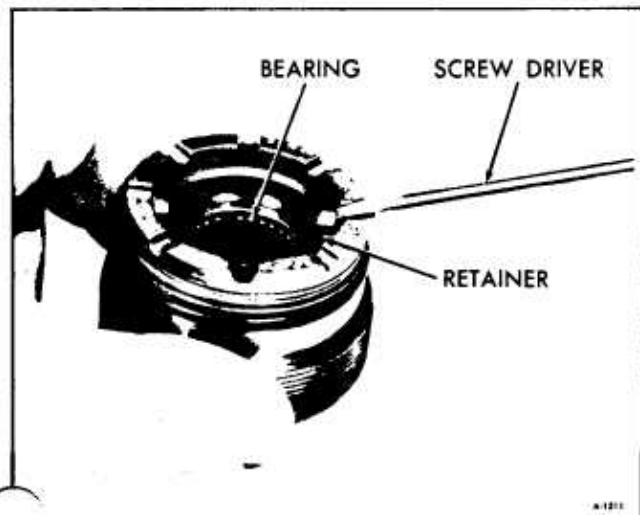

Figure 29—Removing Retainer
2. If the thrust bearing **ONLY** is to be removed, pry the thrust bearing retainer at the two raised areas with a small screw driver (figure 29). Remove the spacer, thrust bearing washer, thrust bearing and washer.